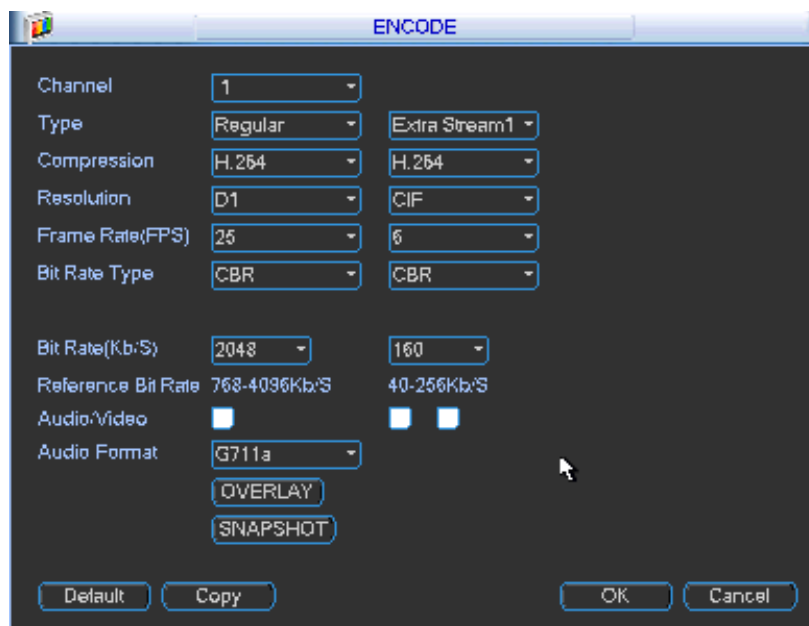
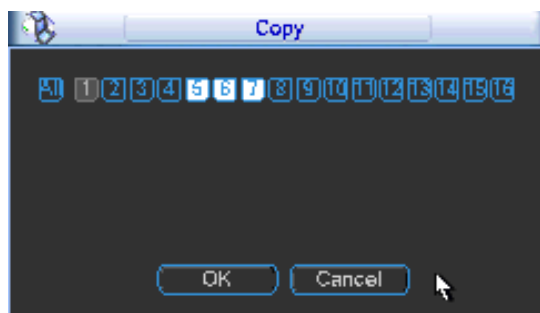

Figure 5-6
Figure 5-8
Encode setting includes the following items. See Figure 5-6.
- ✧ Copy: After you complete the setup, you can click Copy button to copy current setup to other channel(s). You can see an interface is shown as in Figure 5-8. You can see current channel number is grey. Please check the number to select the channel or you can check the box ALL. Please click the OK button in Figure 5-8 and Figure 5-6 respectively to